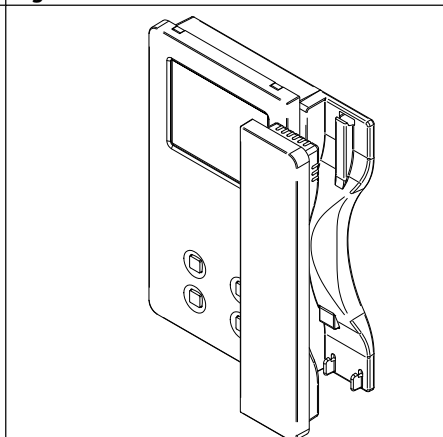

Fig. 6
6. Reconnect the handset and hang it as shown in **Fig. 6**.